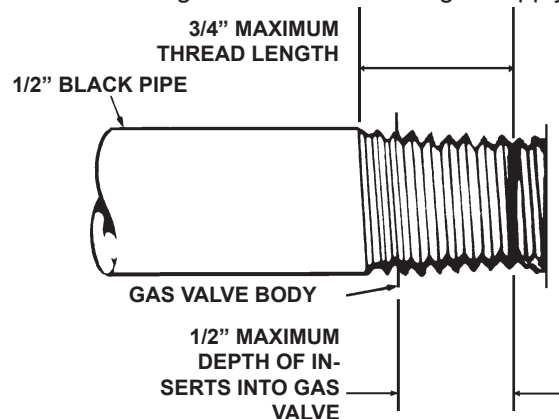

Figure 6. Gas Valve Connection Requirements
- Male threads on pipe to be installed into gas valve shall meet the requirements of Figure 6. Threads longer than those shown in the figure may cause gas valve distortion and malfunction.
⚠ WARNING: Failure to ensure that male threads on pipe to be installed into gas valve meet the requirements of Figure 6 may cause gas valve damage, distortion and malfunction.